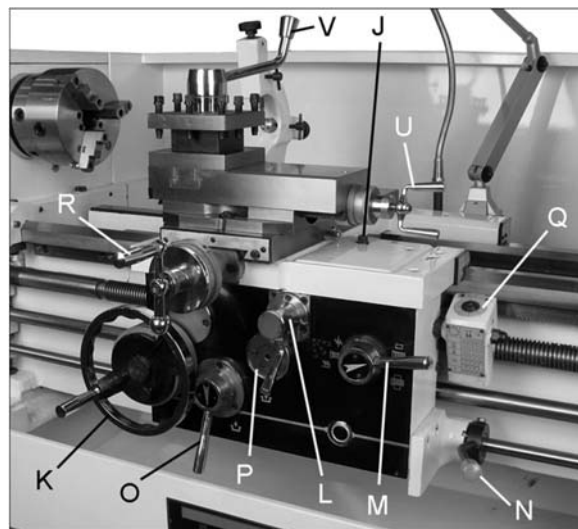

Figure 20 – Carriage controls and settings
5. **Carriage Lock (J, Figure 20):** Located on top right of carriage. Turn clockwise to lock, counterclockwise to unlock.
6. **Carriage Handwheel (K, Figure 20):** Located on the apron. Rotate handwheel clockwise to move the carriage assembly toward the tailstock (right). Rotate the wheel counterclockwise to move the carriage assembly toward headstock (left). A scale is mounted to the ring, graduated in 0.005 inch increments, and can be calibrated by loosening the thumb screw lock and rotating the ring as needed. Always retighten ring before using the feed.
7. **Feed Direction Lever (L, Figure 20):** Push to one of three positions; Up for crossfeed; Down for longitudinal; the middle position allows screws to be cut by engaging the half nut.
8. **Half Nut Lever (M, Figure 20):** Located on the front of the apron assembly. Engages the leadscrew for threading operations.
9. **Spindle Direction Control Lever (N, Figure 20).** Move the lever to the right so that its tab clears the notch, then down for forward spindle rotation, or up for reverse spindle rotation. *Allow the spindle to come to a stop before changing directions.* Position lever in neutral position (tab in notch) before shutting off the lathe.
10. **Feed Engagement Lever (O, Figure 20):** Pull up to engage, down to disengage.
11. **Adjustable Feed Clutch (P, Figure 20):** The clutch may slip if the machine is overloaded; cutting rate must be reduced. The setting of the clutch has been adjusted at the factory and should not require attention. If future
12. **Threading Dial (Q, Figure 20):** Indicates the point on the leadscrew where the half nut can be re-engaged to continue inch threading.
13. **Cross Slide Handwheel (R, Figure 20):** Located above the apron assembly. Clockwise rotation moves the cross slide toward the rear of machine. The accompanying scale is graduated in 0.002 inch increments, and can be calibrated by loosening the thumb screw lock and rotating the ring as needed. Always re-tighten ring before using the feed.
15. **Compound Rest Handle (U, Figure 20):** Rotate clockwise or counterclockwise to position. The accompanying scale on the collar is graduated in 0.001 inch increments.
16. **Tool Post Clamping Lever (V, Figure 20):** Rotate counterclockwise to loosen and clockwise to tighten. Always use minimum of two clamping screws to secure a cutting tool.
4. Set feed direction lever (see L, Figure 20) to correct position (neutral).
5. Engage the half nut (M, Figure 20). The half nut must be engaged during the entire threading process when doing metric, diametral, and modular threading.